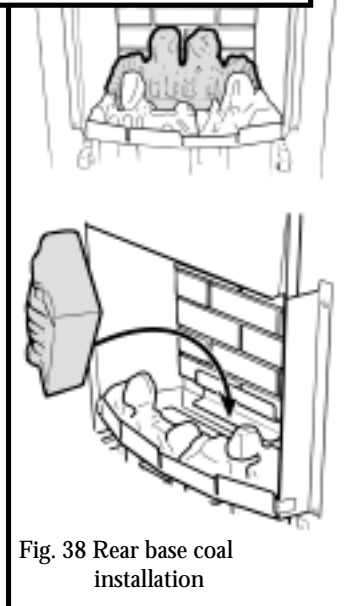

Fig. 38 Rear base coal installation
12.3 Place the rear base coal in the burner compartment behind the front coal. Its rear face should touch the rear ceramic wall (See figure 38).